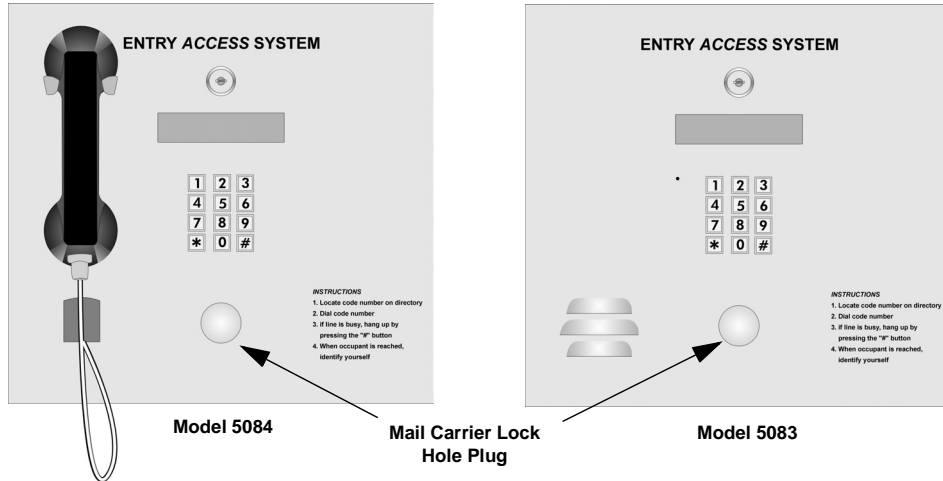

Figure 3-14 Mail Carrier Lock Hole Plug Location
1. Remove the Mail Carrier Lock hole plug. (See Figure 3-14.)